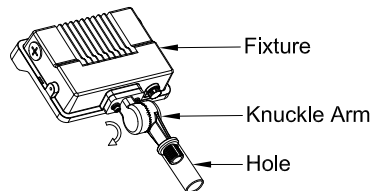

Fig. 2
2. The Knuckle Arm allows 180° of vertical aiming adjustment depending on the mounting position as shown in Fig. 2.
2. The Yoke Arm allows 90° of vertical aiming adjustment depending on the mounting position as shown in Fig. 2.